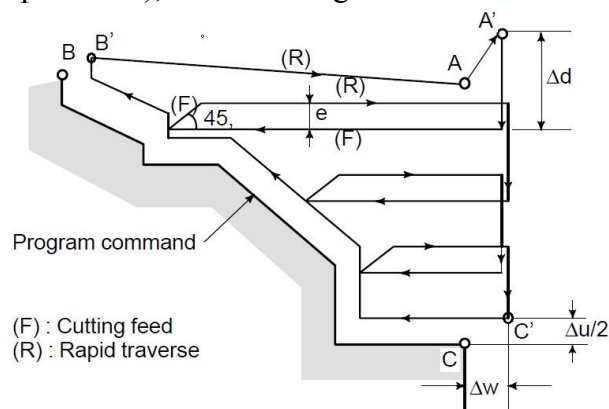

Fig3.9.1 Cutting Path in Axial Roughing Turning Cycle
**Execution process:(reference as Fig3.9.1)**
① Rapid traverse from A point to A' point , the travel in X direction is  $\Delta u$ , and the travel in Z direction is  $\Delta w$ ;
② The travel in X direction from A' point is  $\Delta d$ ( tool infeed), ns block is for tool infeed at